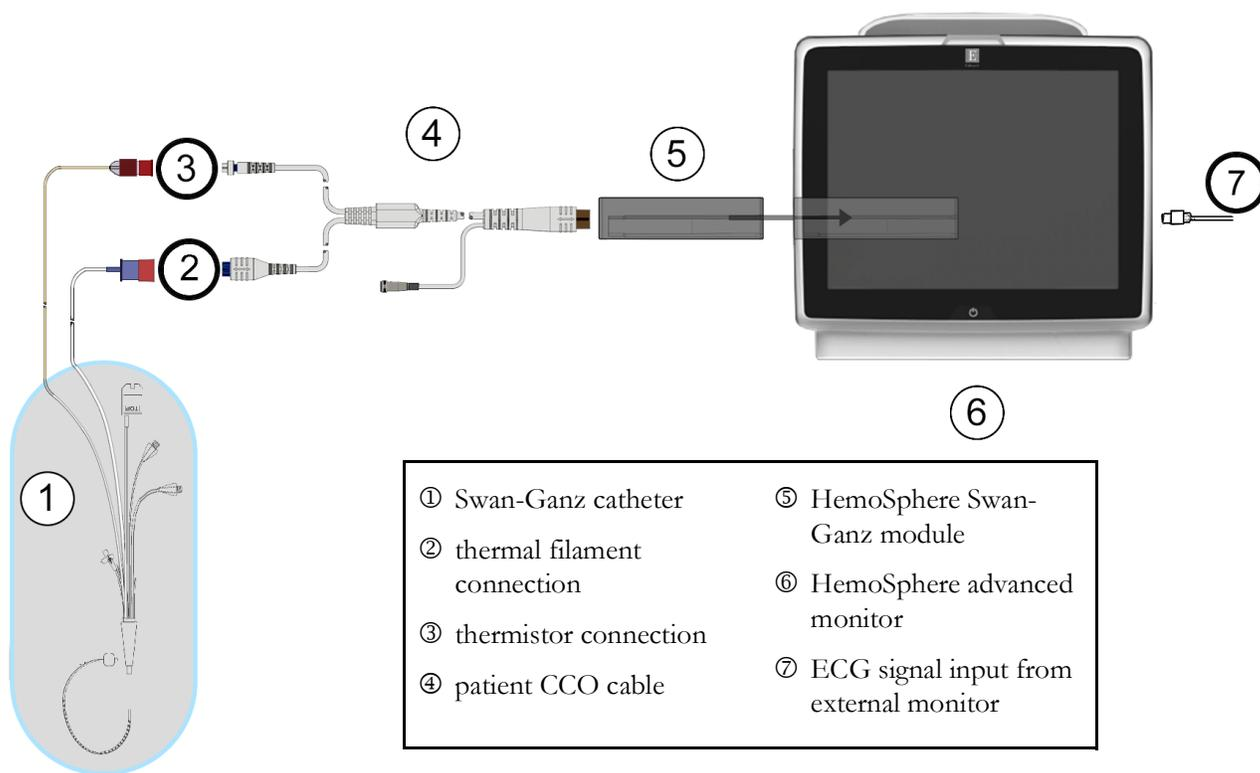

Figure 9-8 EDV/RVEF connection overview
- 2 Attach the catheter end of the patient cable to the thermistor and thermal filament connectors on the Swan-Ganz CCOMbo V catheter. These connections are emphasized by ② and ③ in figure 9-8.